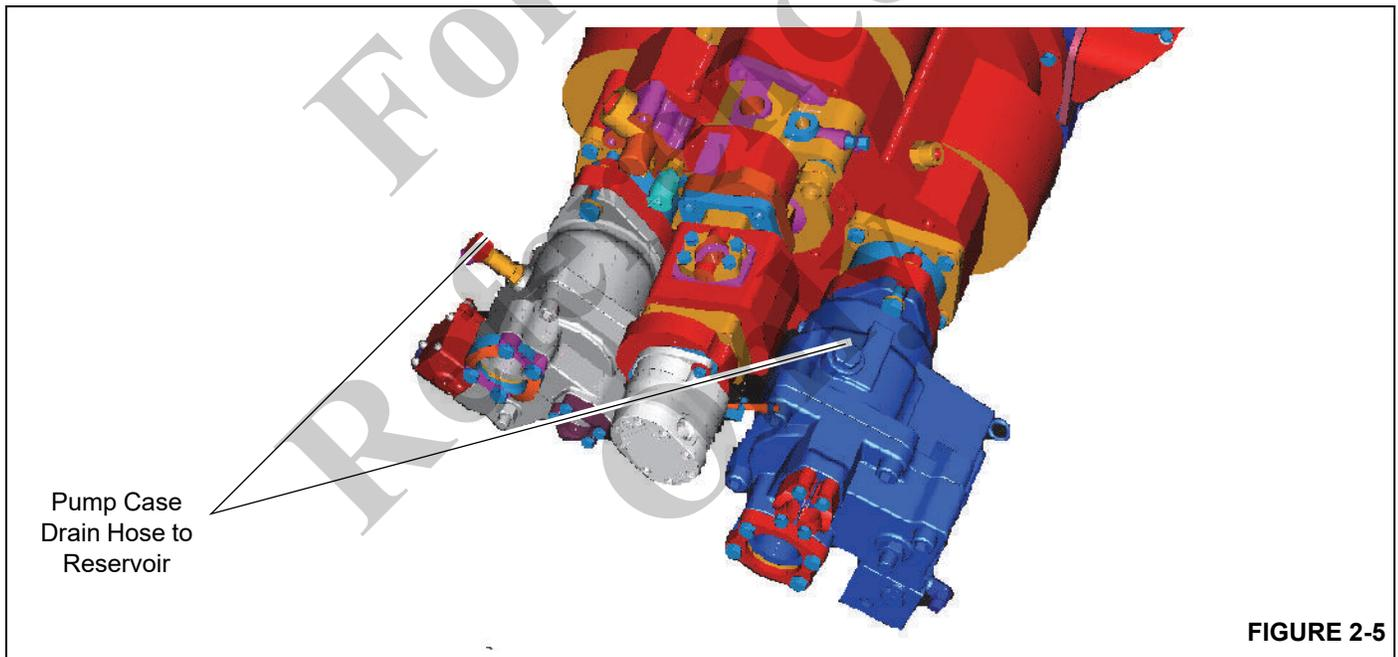

FIGURE 2-5
3. Remove the case drain hose and adapter from the "DR" port Figure 2-5 on both pumps and fill the housing with the same hydraulic fluid that was used to fill the hydraulic reservoir to the bottom of the o-ring case drain port. Re-install the case drain adapter and hose running to the hydraulic reservoir.